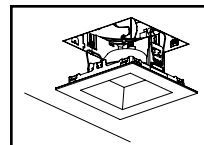
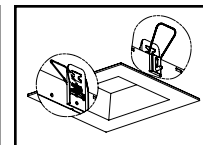

Figure 8.
Figure 9.
- Fold torsion springs upward and insert element into platform (Figure 8.). Push the element firmly against the ceiling (Figure 9.). If element flange is NOT seated completely against ceiling, pull the element away from the platform. Check for possible obstructions or improperly oriented element.